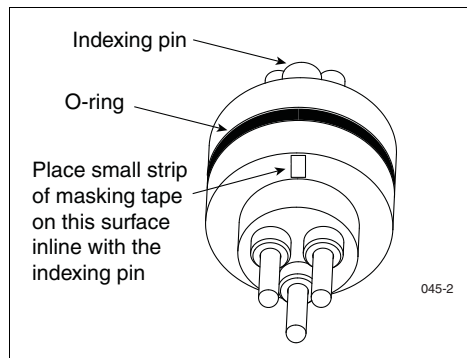

Figure 35. Placing Masking Tape Alignment Marker On Front Of Male Connector
12. Place a small piece of masking tape on the pins side of the connector inline with the indexing pin (see Figure 35).